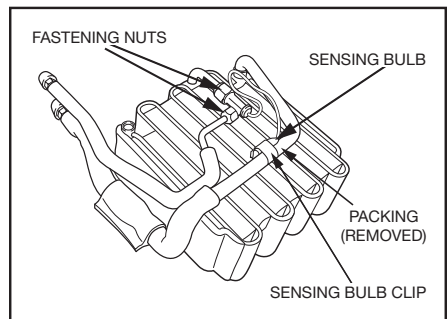

Fig. 4
3. Remove all packing from around the sensing bulb and clip (See Fig. 4).